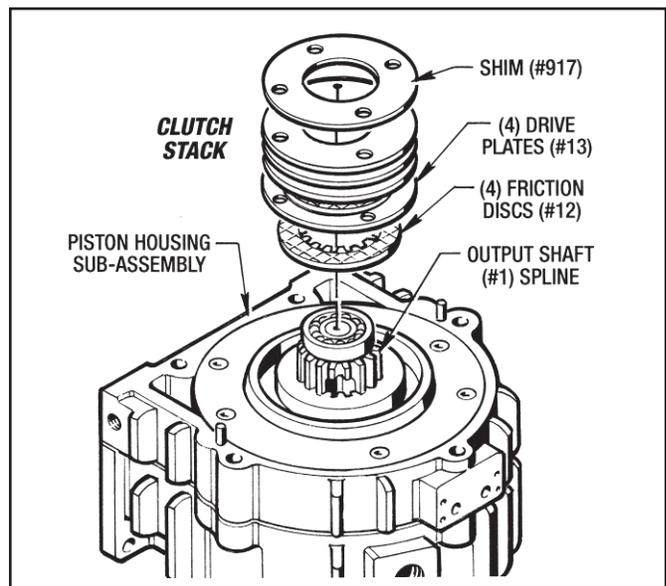

Figure 9.16 - Installing Clutch Stack
5. Install the **Clutch Stack** onto the Output Shaft Spline, starting with a Friction Disc (#12) then a Drive Plate (#13) and then another Friction Disc (#12). There will be (4) Drive Plates (#13) and (4) Friction Discs (#12). If required for correct Stack Height, place a shim (#917) last on the stack. (See Figure 9.16 and Section 9-10.)